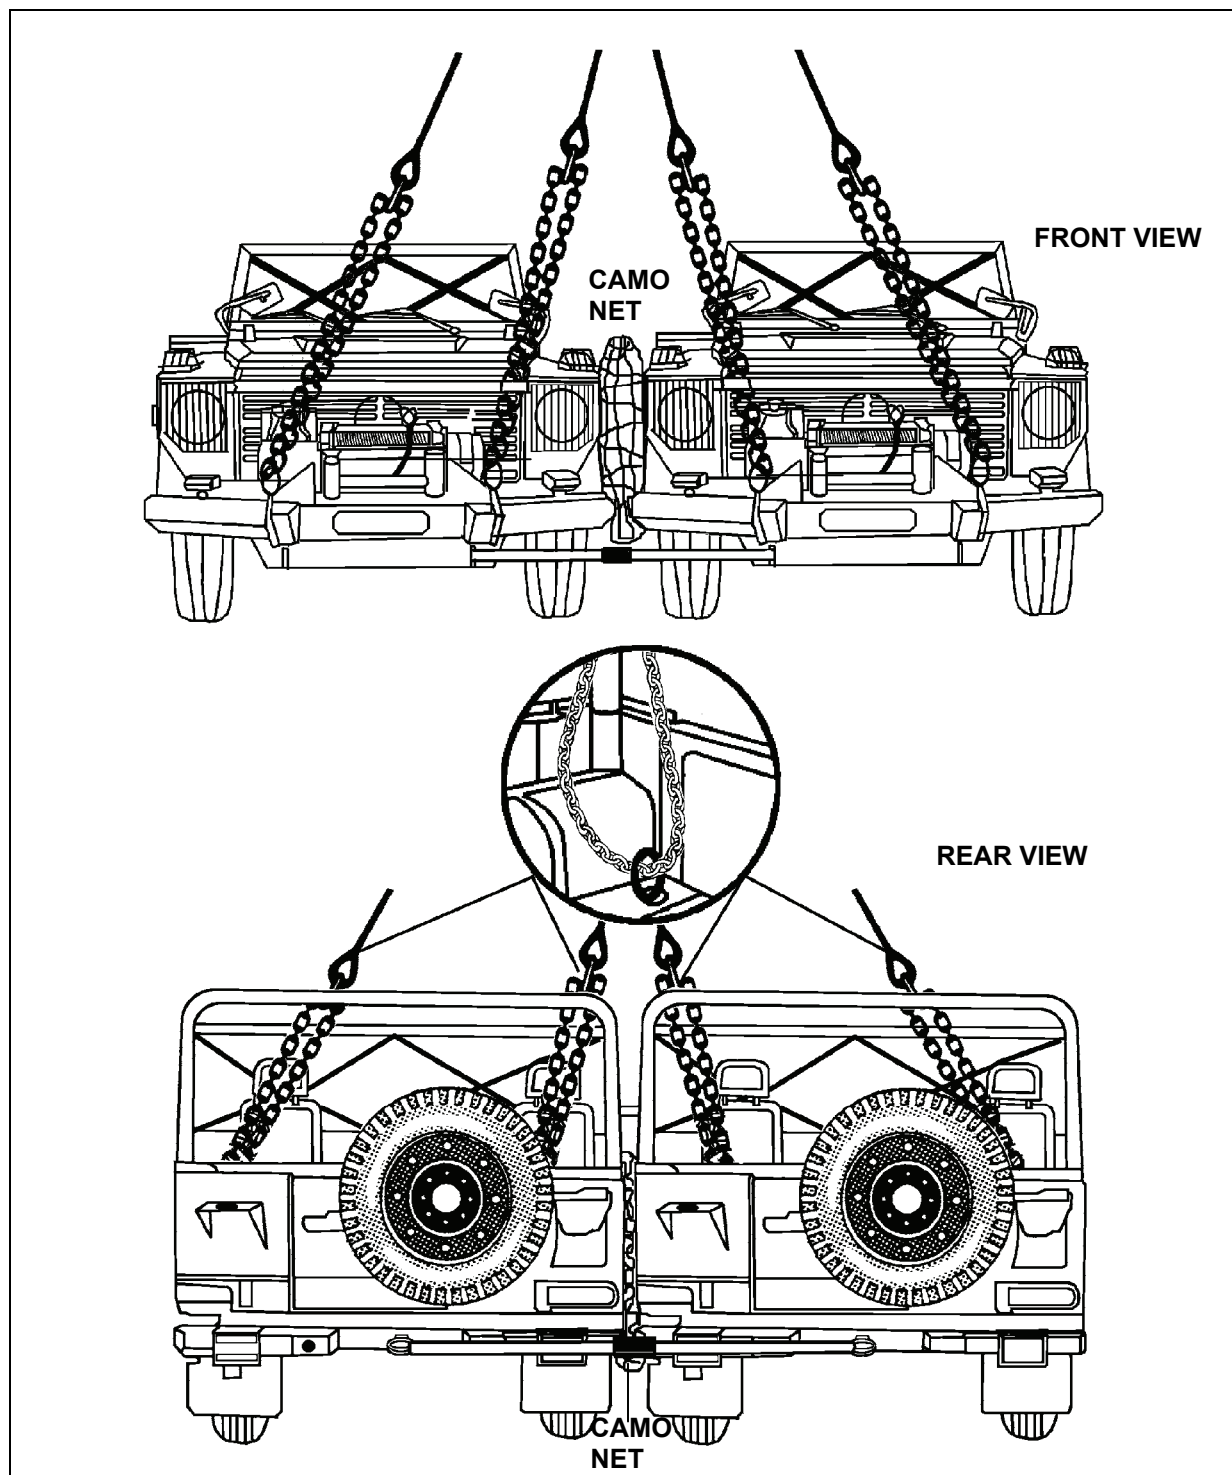

Figure 2-39. Interim Fast Attack Vehicle Truck, Long Wheel Base, Side by Side (Shotgun)
- **Rigging.** Rig the load according to the steps in Figure 2-39.